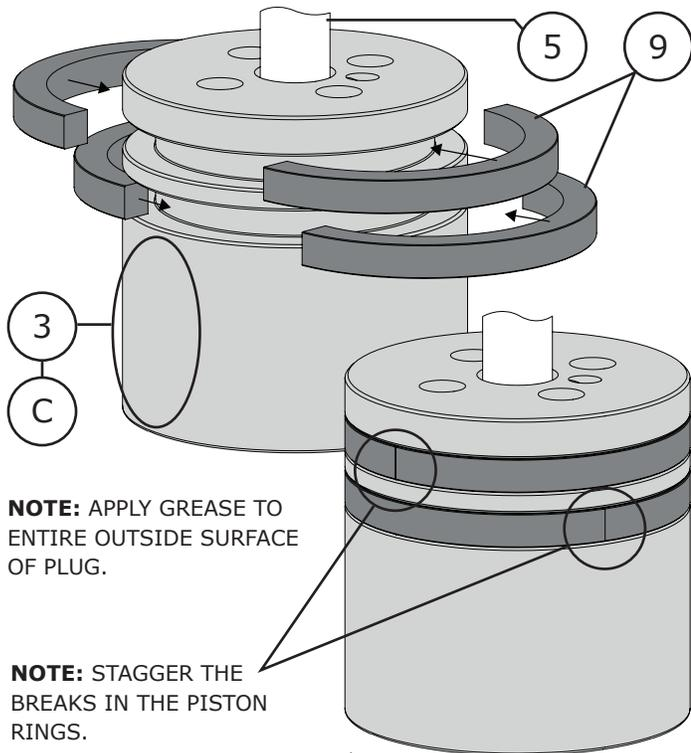

Figure 19 391 Piston Ring Installation
- 5 Remove the electrical tape. Install each half of the broken piston ring into the piston ring groove in the valve plug (Key 3). Refer to Figure 19.